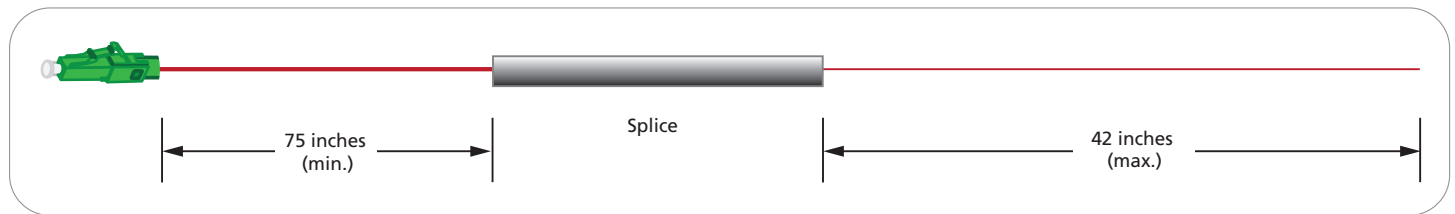

Figure 14
1. Cut drop fiber to 42" from buffer tube opening and 900 μ m pigtail to 75" to connector body for splicing. **(Figure 14)**